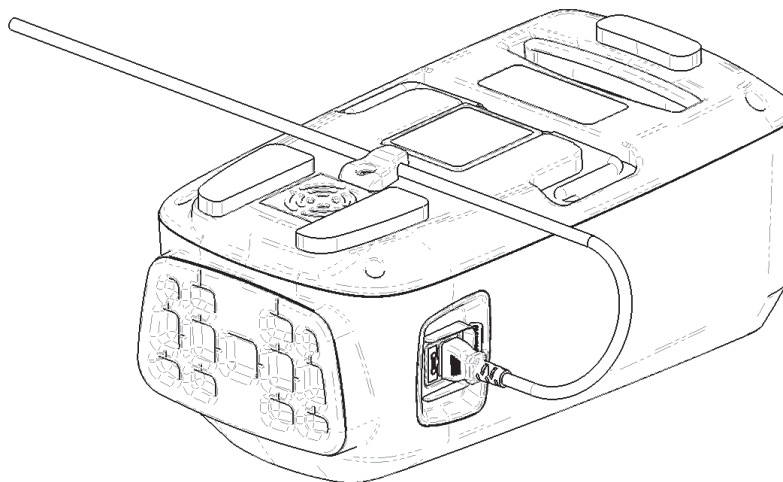

Figure 5 – Power cord secure
11. Secure the power cord (Figure 5).